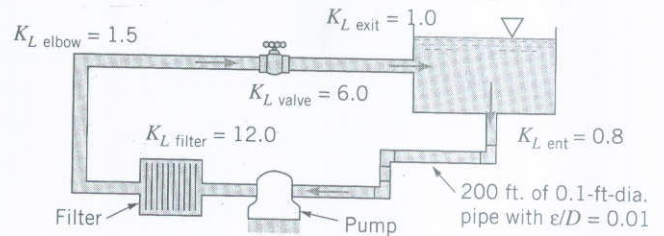

FIGURE P8.99
8.99 Water is circulated from a large tank, through a filter, and back to the tank as shown in Fig. P8.99. The power added to the water by the pump is 200 ft · lb/s. Determine the flowrate through the filter.